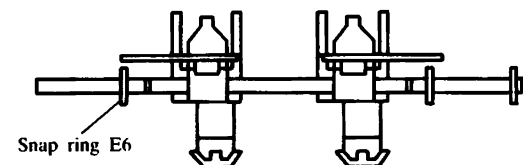

Fig. 27
- (3) Remove the Snap ring E6 on the left side of the bar and take out the Operation range knob. (Refer to Fig. 27)